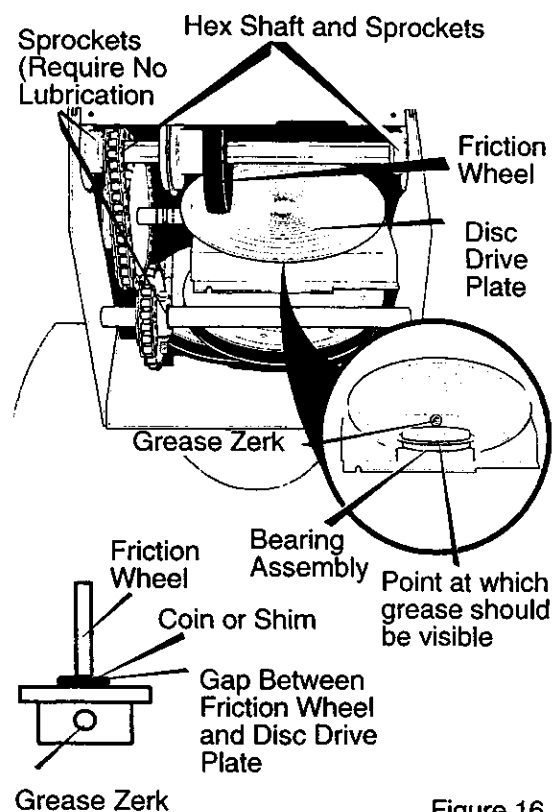

Figure 16
4. Turn **disc drive plate** clockwise by hand until **grease zerk** is clearly visible at front center. See Figure 16.
1. **Hex Shaft and Sprockets** – **Hex shaft and sprockets** require no lubrication. All bearings and bushings are lifetime lubricated and require no maintenance. See Figure 16.